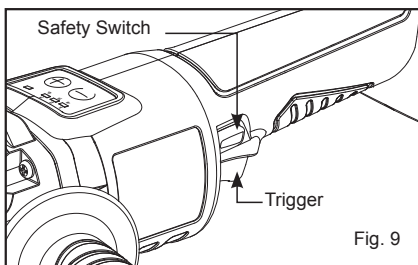

Fig. 9
3. To start the tool, depress the lock-off button (A) and then pull trigger (B). Tool speed is increased by increasing pressure on the switch trigger. (Fig. 9)